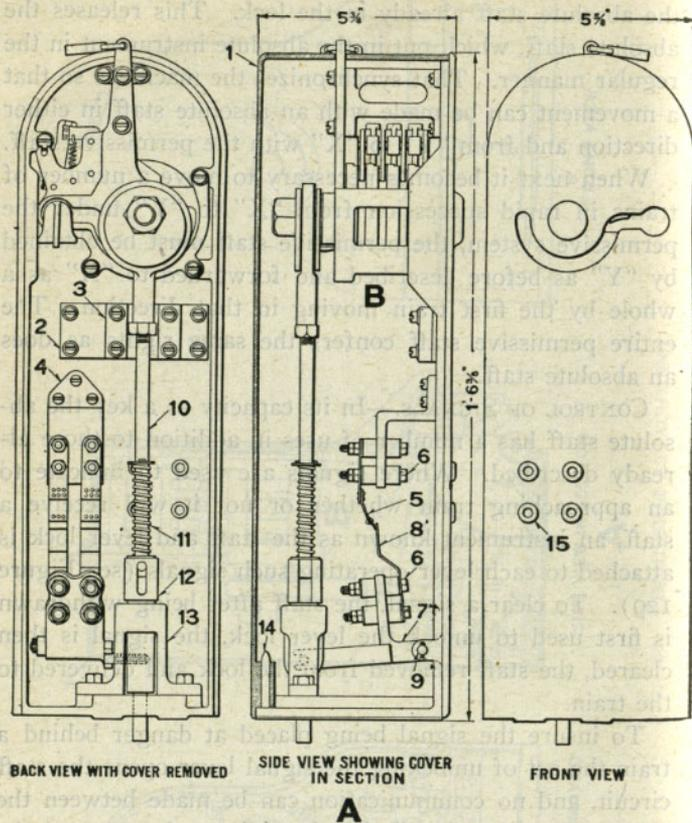

FIG. 129. STAFF LEVER LOCK.
**CONTROL OF SIGNALS.**—In its capacity as a key the absolute staff has a number of uses in addition to those already described. Where signals are used to indicate to an approaching train whether or not it will receive a staff, an instrument known as the staff and lever lock is attached to each lever operating such signals (see Figure 129). To clear a signal, the staff after being withdrawn is first used to unlock the lever lock, the signal is then cleared, the staff removed from the lock and delivered to the train.
places the staff in the siding or junction instrument, and turns the drum to the right. The staff is now locked in the instrument and the staff instruments at "X," "Y" and junction or siding are synchronized. (See Figure 129.)